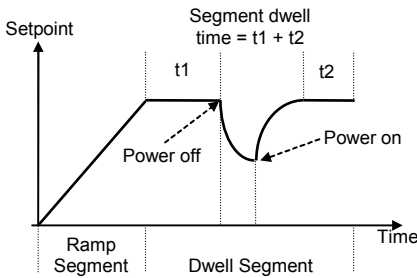
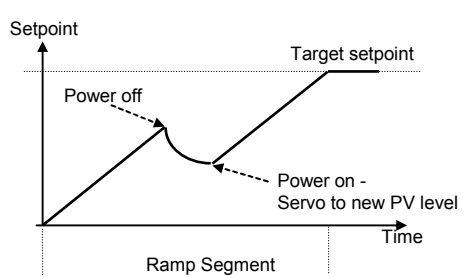

Figure 5-2 Continue after a power fail
Figure 5-3 Ramp back after a power fail
*If 'rmpb' is selected*, then when power is restored the setpoint starts at ('servos to') the current measured value, and then ramps to the target setpoint of the active segment at the last ramp rate used by the program. This strategy provides a smoother recovery. The two diagrams below illustrate the respective responses, Fig5-2 if power fails during a dwell segment and Fig5-3 if it fails during a ramp segment.